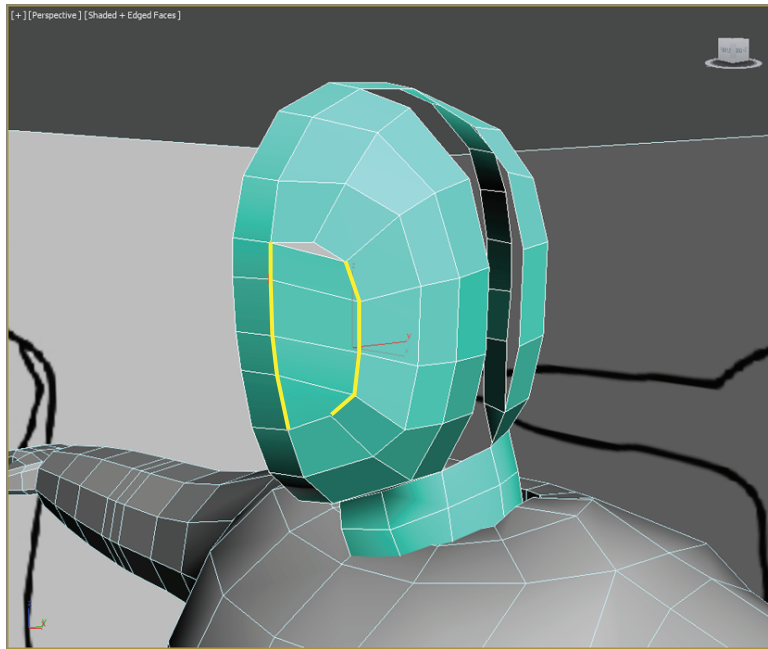

FIGURE 9.11 Select edges and use Bridge.
14. Select the eight edges on the front of the face and the side of the face, and then use Bridge, as shown in Figure 9.11.